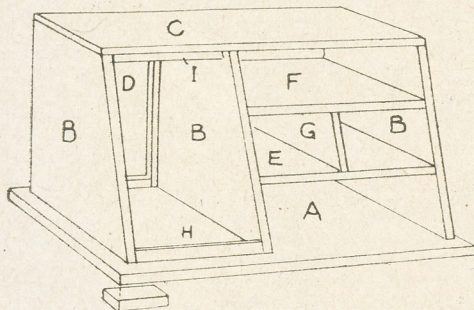
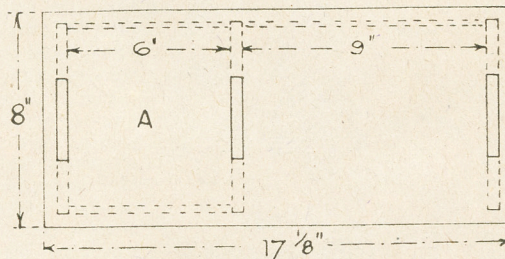
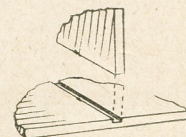

Fig. 2—Showing general construction of framework
Fig. 3—How to mark out the base
Fig. 7—Grooved upright
given in Fig. 2, where (A) is the base which must be squared up accurately from a piece of $\frac{3}{4}$ in. stuff. The sides and mid partition (B) should be tenoned into the base, and the plan, Fig. 3, gives the measurements for setting out the three mortises.
Or, again, the two pieces (E) and (F) may be shallow-grooved, as seen in Fig. 7, and partition (G) finally slid between the two after they are fixed in place. Small rails (H) and (I) are next prepared from $\frac{1}{2}$ in. by $\frac{3}{4}$ in. stuff 6 ins. long, and glued as seen in Fig. 2.